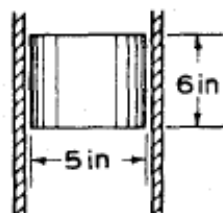

Fig. 1-7
- 1.72** A piston of weight 21 lb slides in a lubricated pipe, as shown in Fig. 1-7. The clearance between piston and pipe is 0.001 in. If the piston decelerates at 2.1 ft/s^2 when the speed is 21 ft/s , what is the viscosity of the oil?